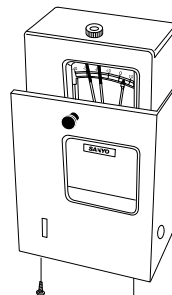

Fig. 6
2. Attach the temperature recorder (MTR-0620LH) to the recorder fixture (MPR-S30: optional component) by referring to the instruction manual enclosed with the recorder fixture. (Fig. 6)